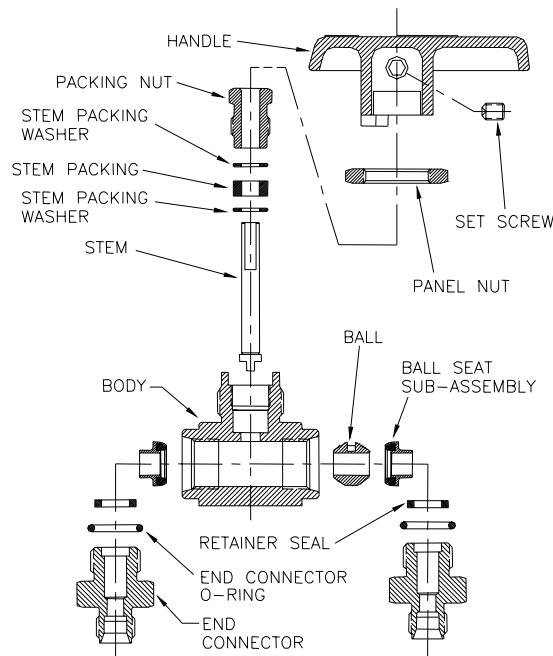

Figure 3: Ball Valve Assembly with PTFE Packing Exploded View
8. Refer to Figure 3. Stack the three Stem Packing components on the Stem in the following order, with the first item being placed at the bottom of the Stem: Packing Washer / Stem Packing / Packing Washer.